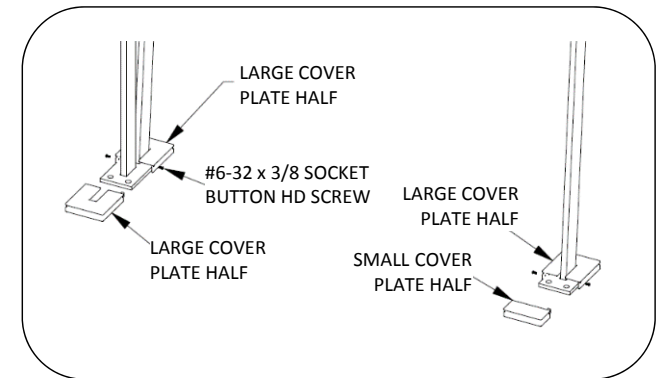

Fig. 8 – Install cover plate
1. Install cover plates as shown in Fig. 8.